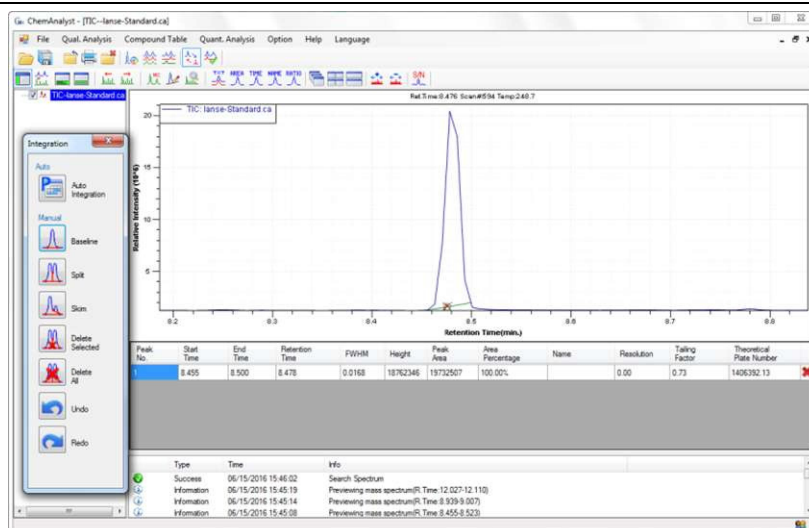

Figure 7-15 Manual Integration
- (12) Click the baseline icon.
- (13) Click the start point and end point of chromatogram peak respectively, as shown in Figure 7-15.
- (14) The corresponding component information will be displayed below the chromatogram.